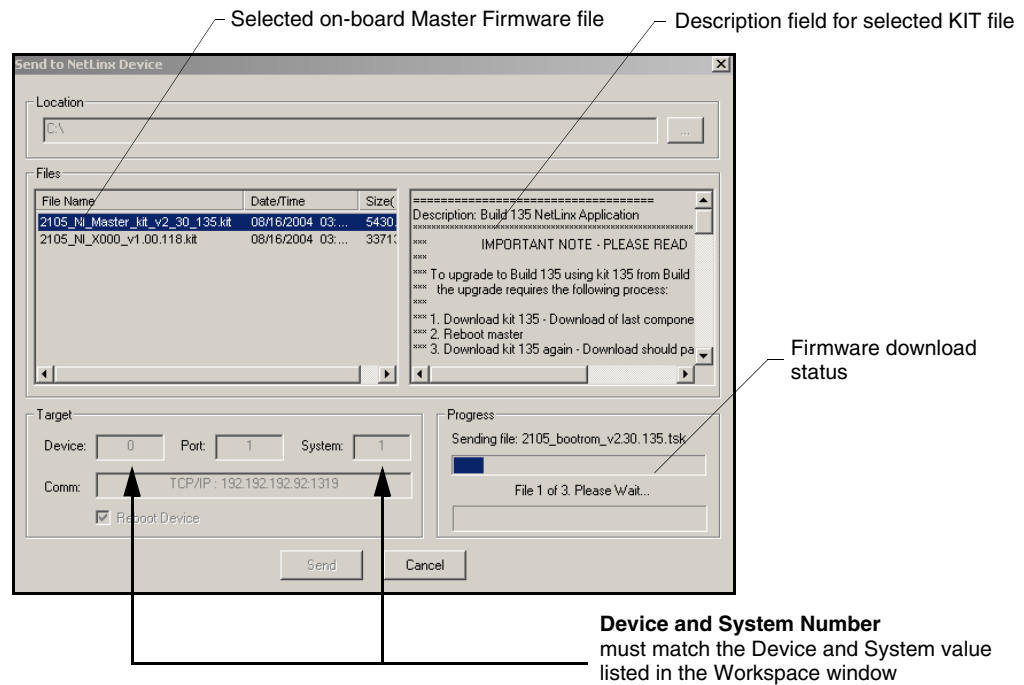

FIG. 30 Send to NetLinx Device dialog (showing on-board NI_Master firmware update via IP)
1. Click the **OnLine Tree** tab in the Workspace window to view the devices on the System. *The default System value is one (1).*
5. Select **Tools** > **Firmware Transfers** > **Send to NetLinx Device** from the Main menu to open the Send to NetLinx Device dialog (FIG. 30). Verify the target's System number matches the value listed within the active System folder in the **OnLine Tree** tab of the Workspace.
6. Select the NI Master's KIT file from the **Files** section (FIG. 30).
9. Click **Send** to begin the transfer. The file transfer progress is indicated on the bottom-right of the dialog (FIG. 30).